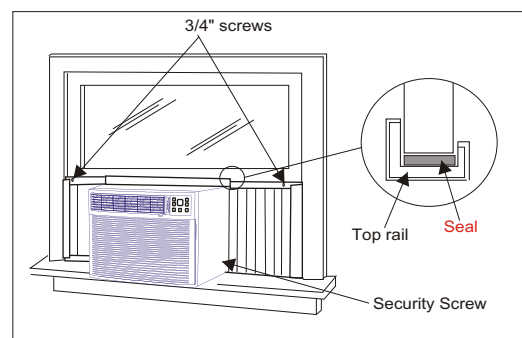

Fig. 12
B. Reinstall the slide-out-chassis security screws (removed earlier) on both sides of the cabinet. See (Fig. 12).
C. Now, secure bottom frame of shutters using one accordion clamp and one 3/4" screw on each side (Fig. 12).